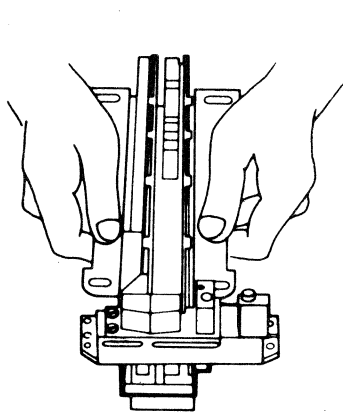
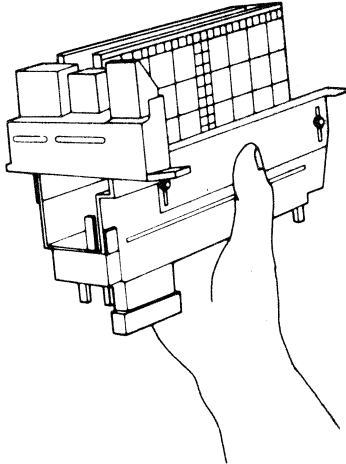

Figure 1
Figure 2
1. When you move the R/W FRU assembly, grasp the side brackets and lift the assembly as shown in Figure 1. Grasp the assembly, holding it as shown in Figure 2.